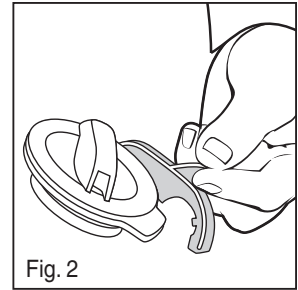

Fig. 2
- 2) Lift tube latch (Fig. 2).
- 6) Close tube latch (Fig. 2).